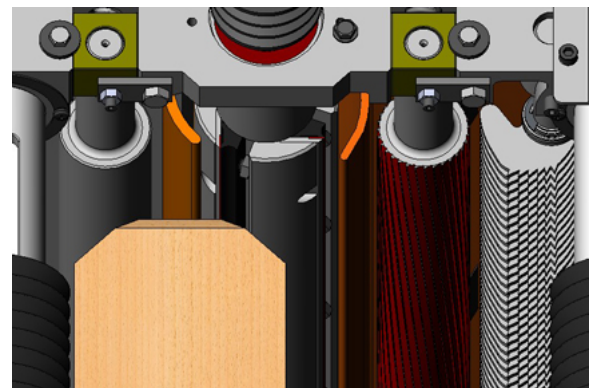
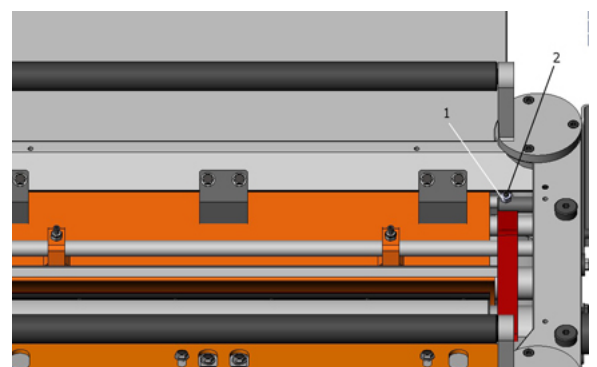

Fig. 26
Fig. 27
3. Place gauge block and 0.2mm thickness gauge under the cutterhead as shown in (Fig. 26).
6. Turn the screw (1) tightly and replace the nut (2).
When adjusting the chipbreaker, the correct position of wooden gauge and 0.1mm thickness gauge must be, as shown in (Fig. 26). Adjust process of screw and nut as shown in (Fig. 27).
1. Place wooden gauge and thickness gauge as shown in (Fig. 26)
2. Loosen screw (1) and nut (2). Turn screw to the right to make chipbreaker move upward.
5. Once adjusted, turn screw (1) tightly, and replace the nut (2).